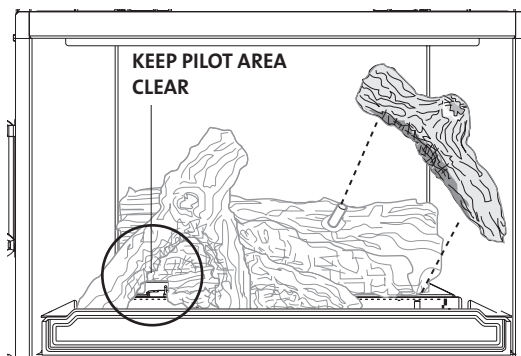

Figure 27. Engage right log on its pegs.
4. Set the Right Log on the appropriate pegs as shown in fig. 27.